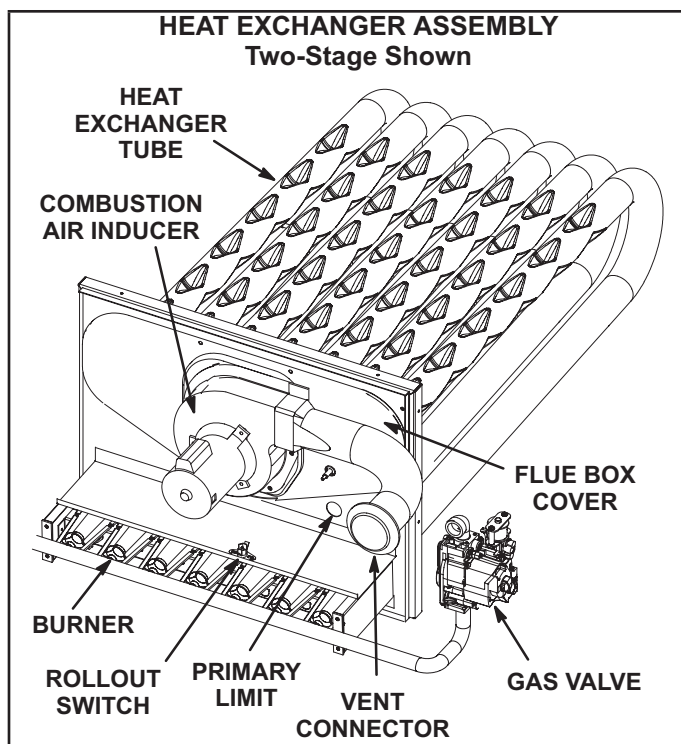

**FIGURE 35**
Limit controls are factory-set and are not adjustable. The primary limit is located to the right of the combustion air inducer. See FIGURE 35.
- 4 - Remove and retain screws securing combustion air inducer to flue box. Remove vent connector. See FIGURE 35.